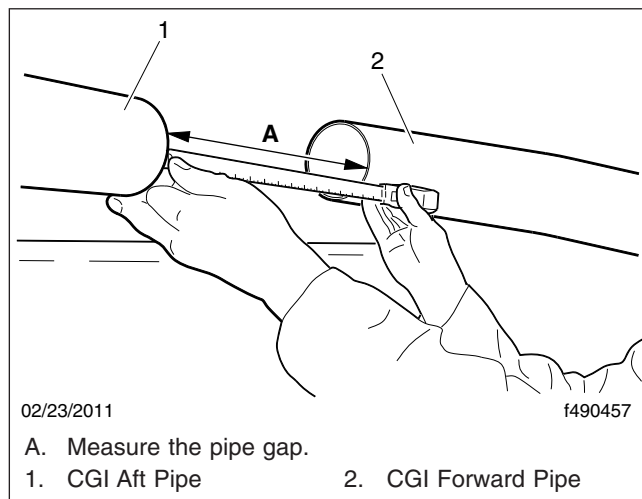

Fig. 7, Measuring the Pipe Gap (typical)
7. Once the pipes are aligned, measure the pipe gap between the CGI pipes and record the distance. See **Fig. 7**, Ref. A.